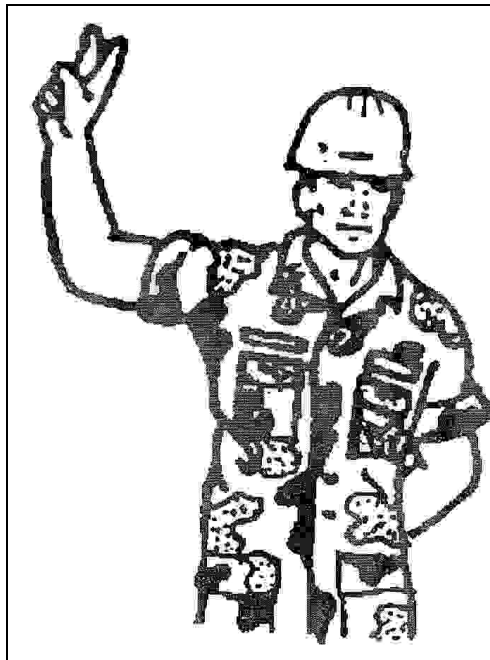

Figure 3-82. Tilt Load Back
4. Use the signal to indicate TILT LOAD BACK (see Figure 3-82).